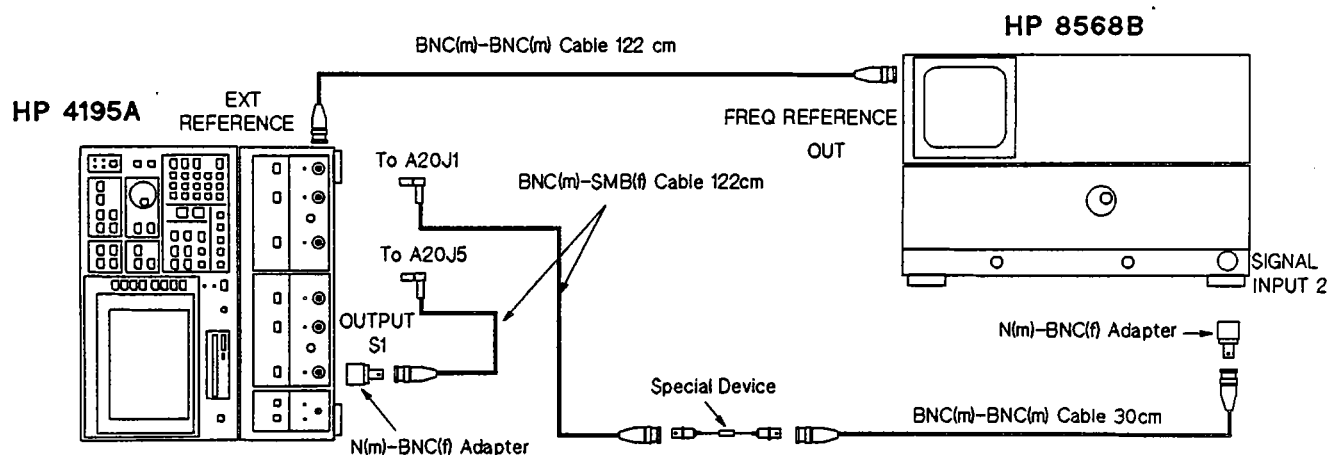

Figure 3-97. Third IF Converter Level Adjustment Setup (2 of 2)
3. Disconnect coaxial cables (4) and (R) from A20J1 and A20J5, respectively. See Figure 3-97 for the locations of A20J1 and A20J5.
7. Connect the equipment as shown in Figure 3-97.